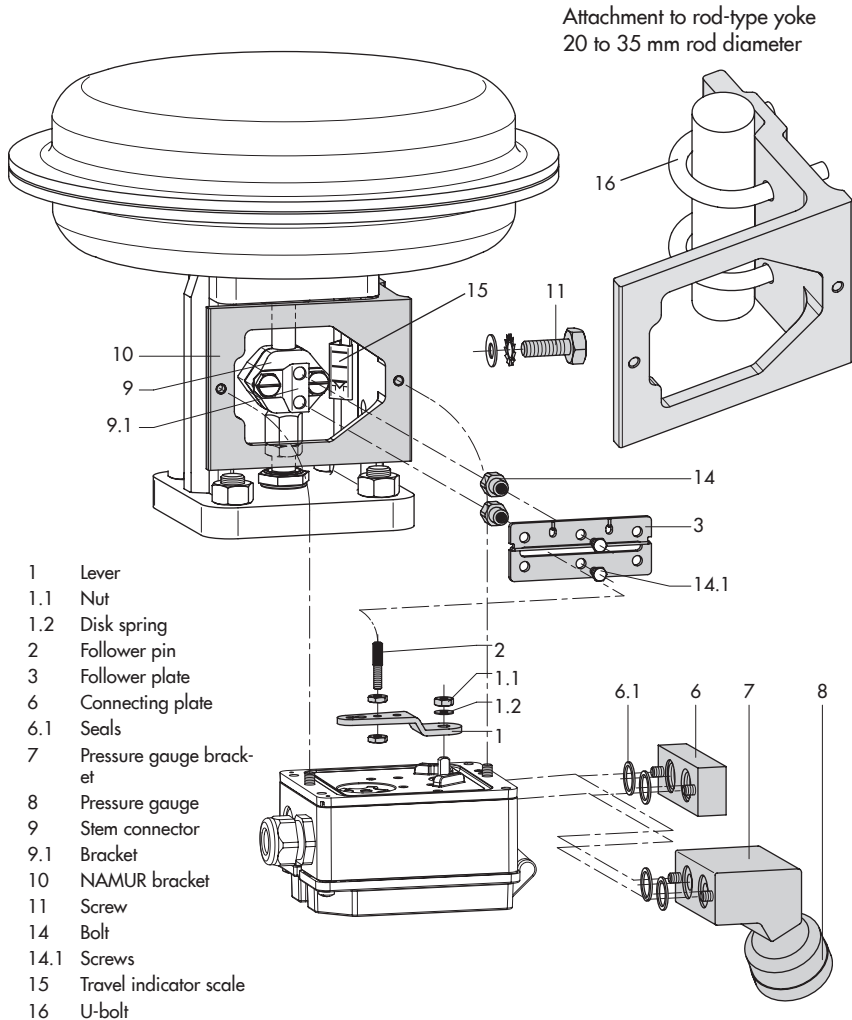

Fig. 10: Attachment according to IEC 60534-6
- See sections 5.3 and Fig. 10